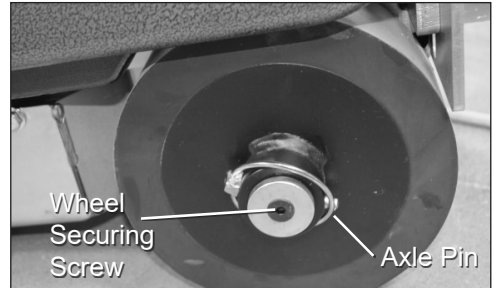

FIG. 9
5. Disengage and remove axle pin (Figure 9).
6. Remove wheel-securing screw with a 3/16" or 5mm hex wrench (Figure 9).